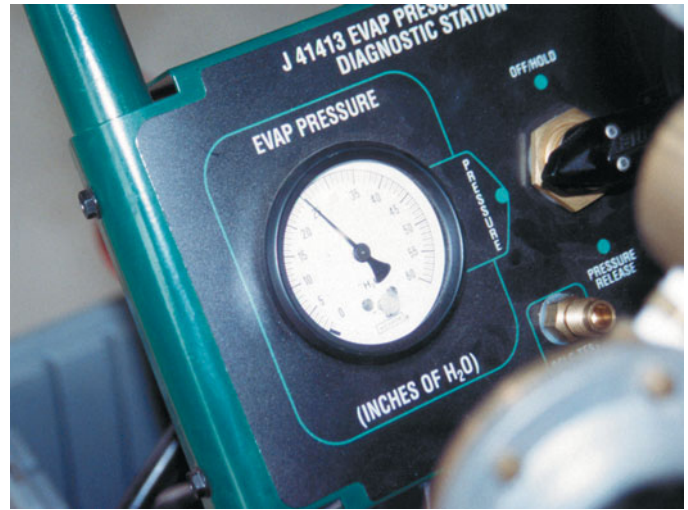

FIGURE 39-38 An emission tester that uses nitrogen to pressurize the fuel system.
- **Nitrogen gas pressurization.** This method uses nitrogen gas under a very low pressure (lower than 1 PSI) in the fuel system. The service technician then listens for the escaping air, using amplified headphones. ● **SEE FIGURE 39-38.**